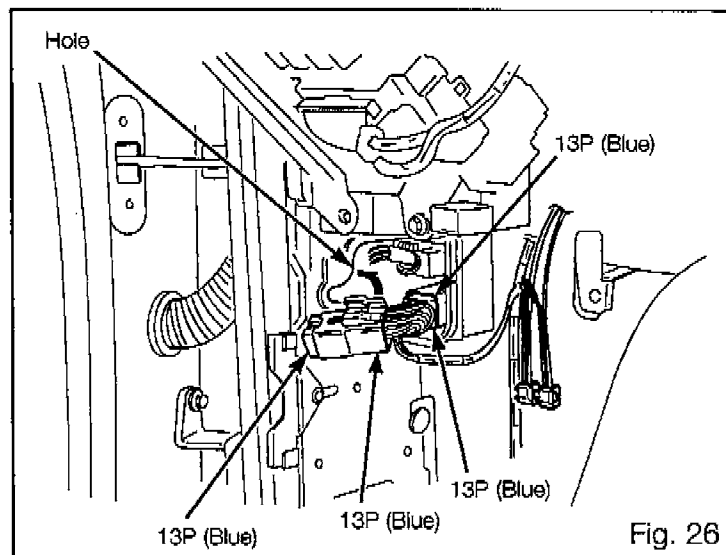

Fig. 26
- (8) A) Insert the RS3000 harness' blue 13P female (terminals) Door Lock Control connector into the connector holder. Fig 26
- B) Insert the vehicle wire harness' blue 13P female (terminals) connector into the RS3000 harness' blue 13P blue male (terminals) Door Lock Control connector. Fig 26
- D) Insert the loose blue connectors into the hole next to the connector holder. Fig 26